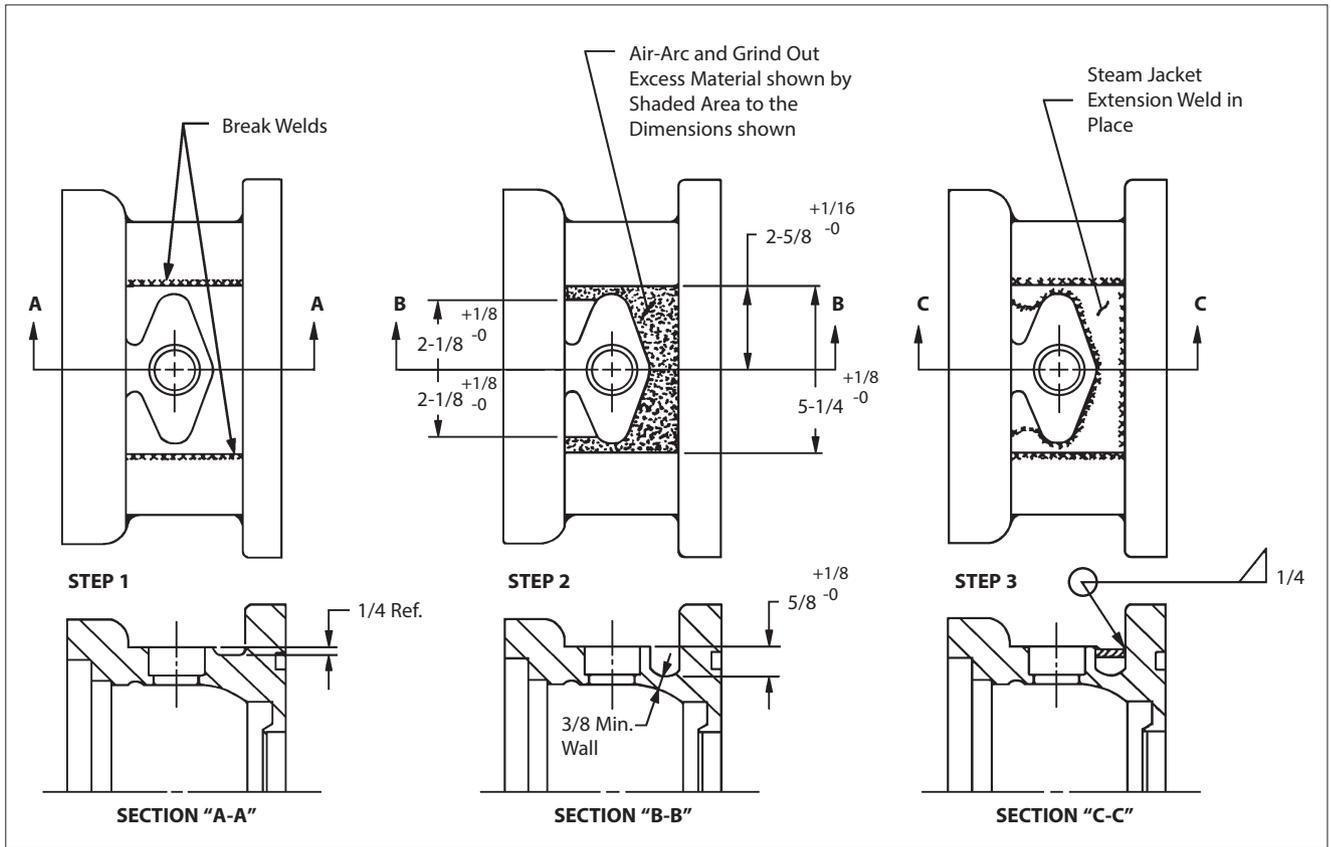

Figure 2.
1. Break seam welds at the two places shown in Step 1, (**Figure 2**).
2. Air-arc and grind out excess metal material shown by shaded area to the dimension shown in Step 2, (**Figure 2**). Do not violate 3/8" (9.5 mm) minimum wall thickness as shown in (**Figure 2**), Section B-B.
1. Carefully fit steam jacket extension (1) around bonnet pad and butt to existing jacket as shown in (**Figure 2, Step 3**).
2. Weld per (**Figure 2, Step 3**). Welding must be performed by welders qualified per ASME Section IX.